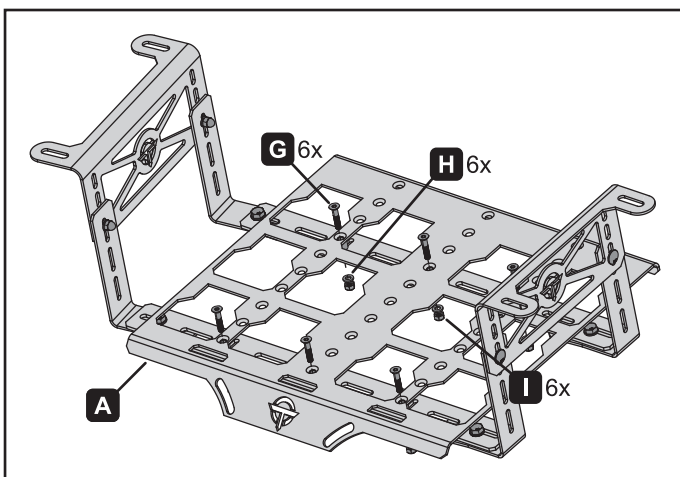

Figure 3.
10. Position the main plate (A) on top of the spacers. Adjust as needed to align the holes in the plate with the spacers (figure 3).
11. Insert socket head screws (G) into the aligned main plate holes. Carefully lower the plate with screws installed onto the spacers, ensuring all six fasteners line up (figure 3).
12. Loosely install the locking nuts (I) and washers (H). Do not fully tighten.